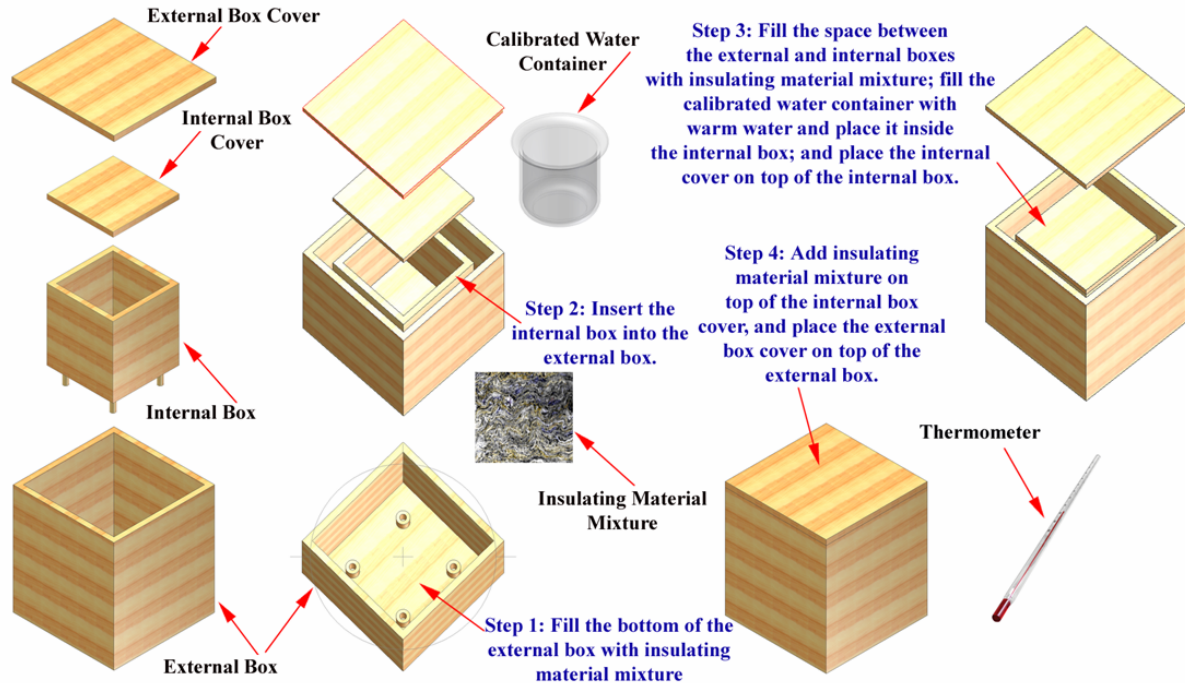
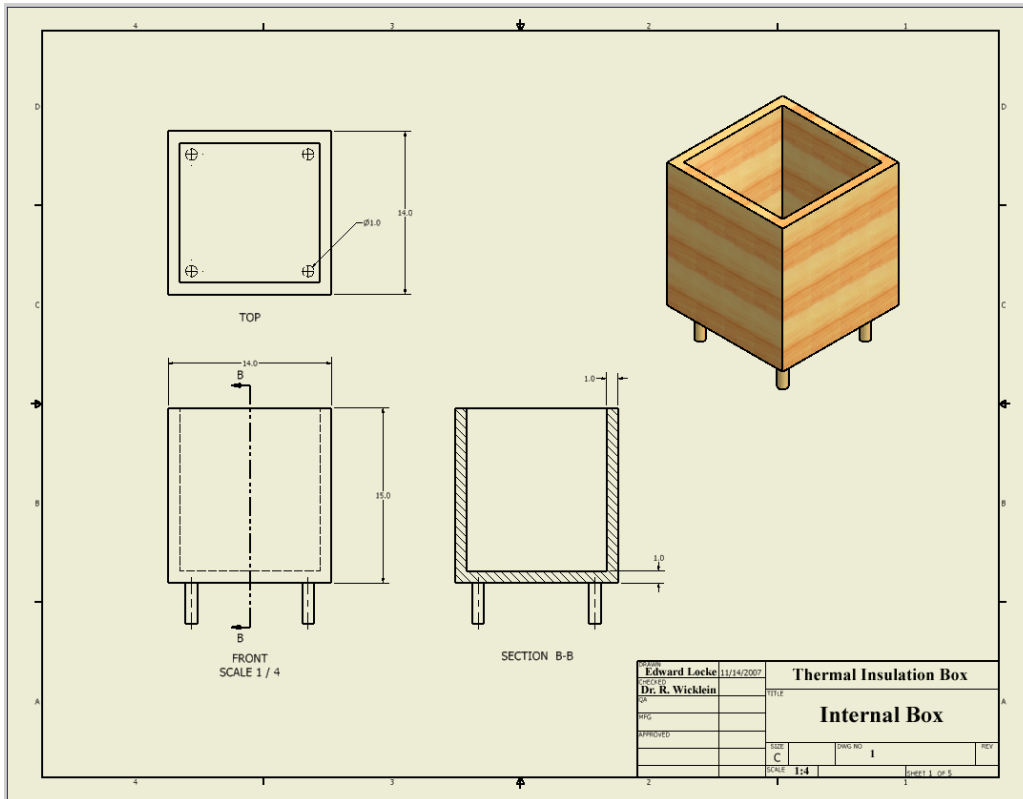
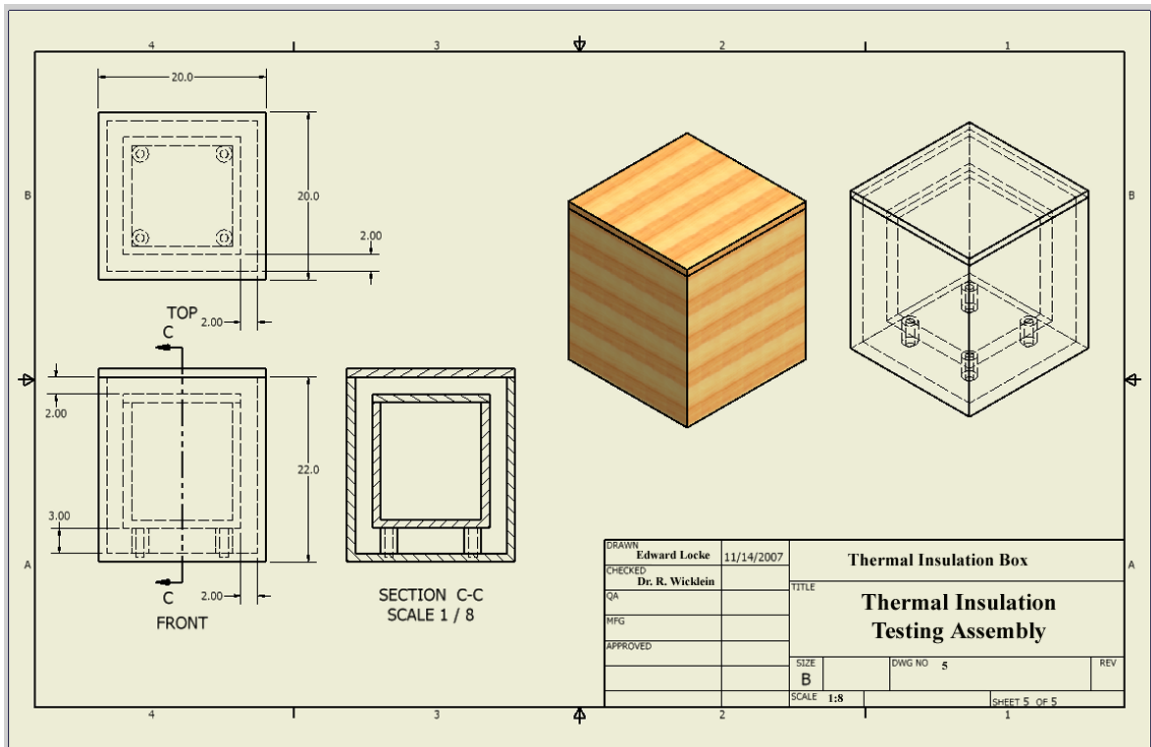

Figure 1: The thermal insulation box and step-by-step testing procedure.
Figure 2 Working drawing for the Internal Box.
Figure 6 Working drawing for the assembly for the testing box.
3. Construction: Design and construct a thermal insulating box (“testing box”) to test the materials (*Figure 1 through Figure 6*).
4. **Design and Fabrication of a Testing Box:** Each student team will build the Testing Box for thermal insulation material samples, according to the working drawings shown in *Figure 2* through *Figure 6*, with pine wood material (3/4 inch or 1 inch thickness).
Next, refer to *Figure 1* and proceed as described in the following paragraphs.